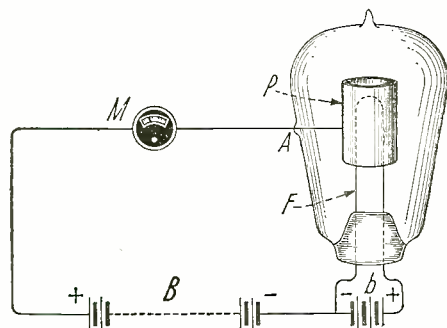

Fig. 65. A Fleming Oscillation Valve.
In order that it may take place continuously, we have to surround the incandescent metal with a metal enclosure and to connect the positive terminal of a battery to this sheath or plate, and the negative pole to the hot filament (see Fig. 65).
Around this filament but not touching it, is a metal cylinder (P), made of sheet nickel, which is fastened to a platinum wire (A), sealed airtight through the glass bulb. With such an appliance it is very easy to show that an incandescent metal filament in a vacuum is giving off negative electricity by the following experiment (see Fig. 65).